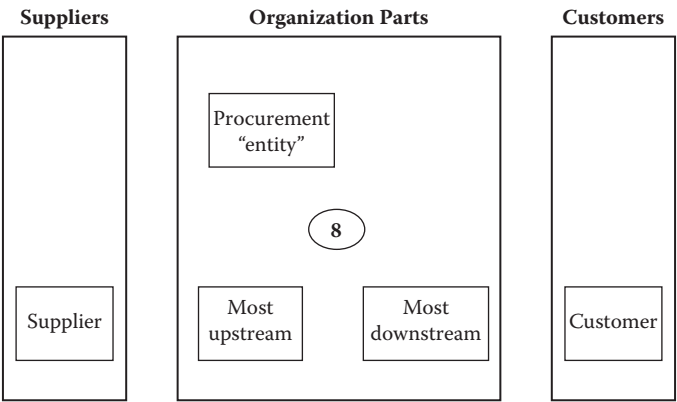

Figure 4.13 Unique organization parts arranged in general Order to Delivery sequence.
8. Draw each *unique* part from the S-C template in the corresponding portion of the relationship map template (Figure 4.13).